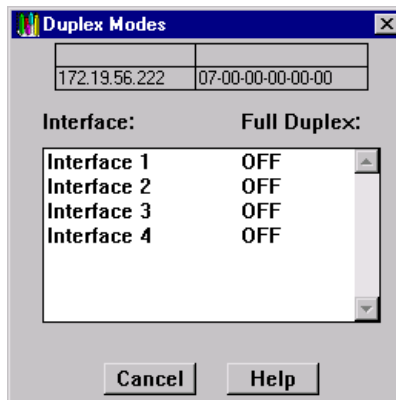

Figure 5-2. The Duplex Modes Window
2. Drag down to **Duplex Mode(s)...**, and release. The Duplex Modes Window, **Figure 5-2**, will appear.